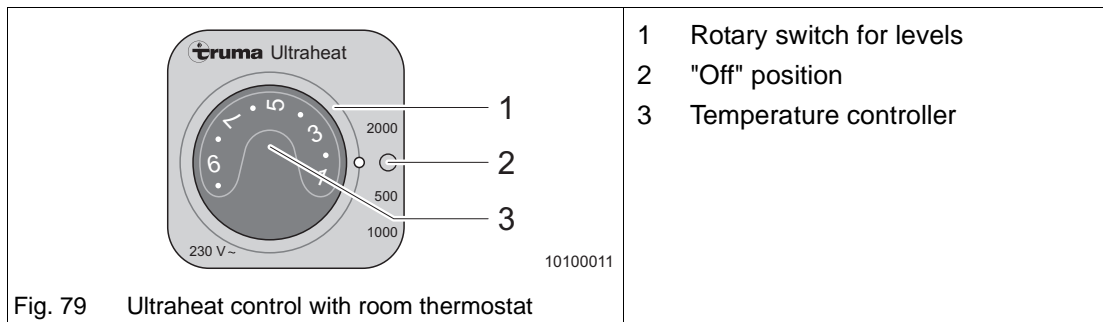

Fig. 79 Ultraheat control with room thermostat
- Turn the rotary switch (Fig. 79/1) to the desired capacity level 500 W, 1000 W or 2000 W.
- Set the thermostat (Fig. 79/3) to the desired temperature.
- Set the rotary switch to (Fig. 79/1) "Off" (Fig. 79/2).